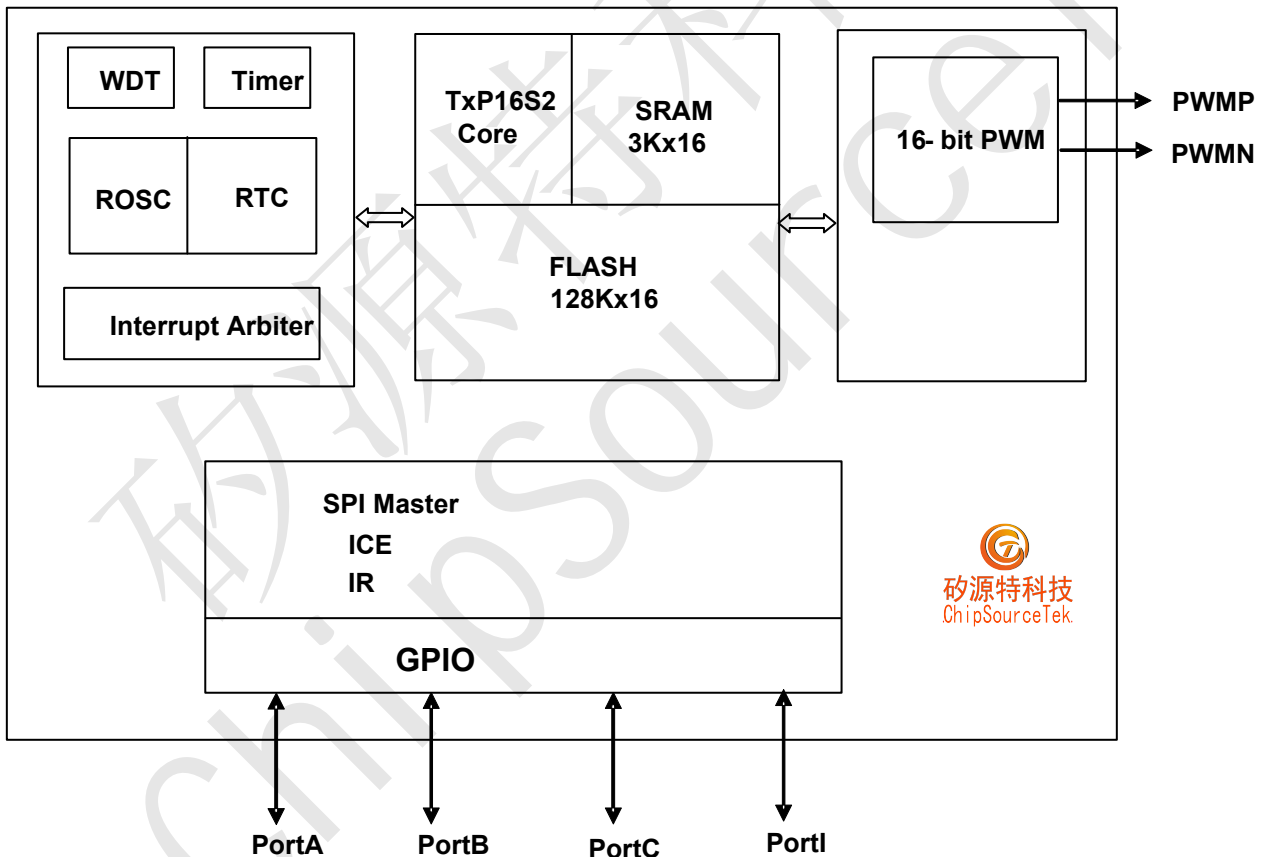

Figure 4.1
As shown in the block diagram in Figure 4.1, the TxP16S2 is a 16-bit data width processing capability and all instructions are operated in one cycle except parameter data ROM(PM) access. The TxP16S2 not only provides general arithmetic such as addition, subtraction, shifter, normalize, and other logical operations, but it also involves MAC and circular buffer operations for complexity digital signal processing.